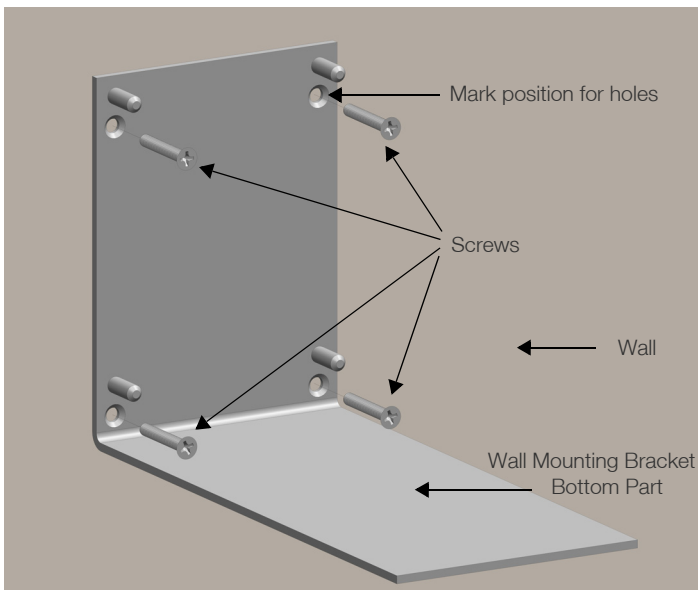

Figure 6. Mounting bracket to wall
1. Hold the wall mounting bracket's bottom part at the desired position on the wall and ensure levelness. Then mark the four holes for fixing the bracket. Use an 8 mm or 0.31 inch twist drill to make the holes and put in the four S8 plugs which are supplied with the wall mounting bracket (refer to **Figure 6**).
2. Attach the wall mounting bracket bottom part to the wall by screwing in the four supplied screws with a Philips screw driver into the wall where you put in the plugs before (refer to **Figure 6**).